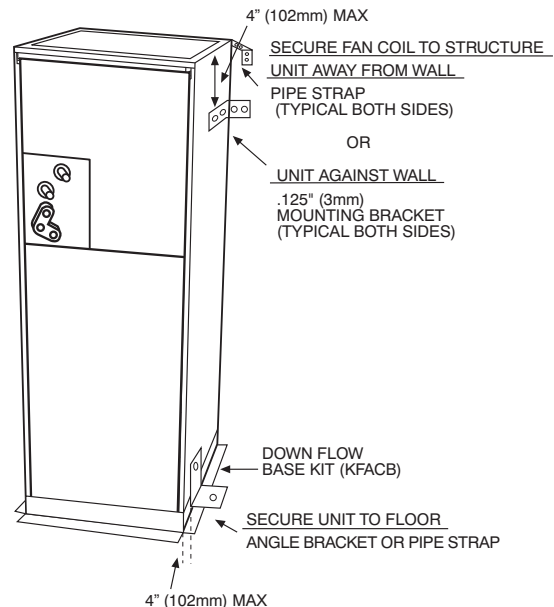

Fig. 7 – Mobile Home or Manufactured Housing Applications
- b. If fan coil is against wall, secure fan coil to wall stud using 1/8" (3mm) wide right-angle brackets. Attach brackets to fan coil using No. 10 self tapping screws and to wall stud using 5/16" lag screws (Fig. 7).